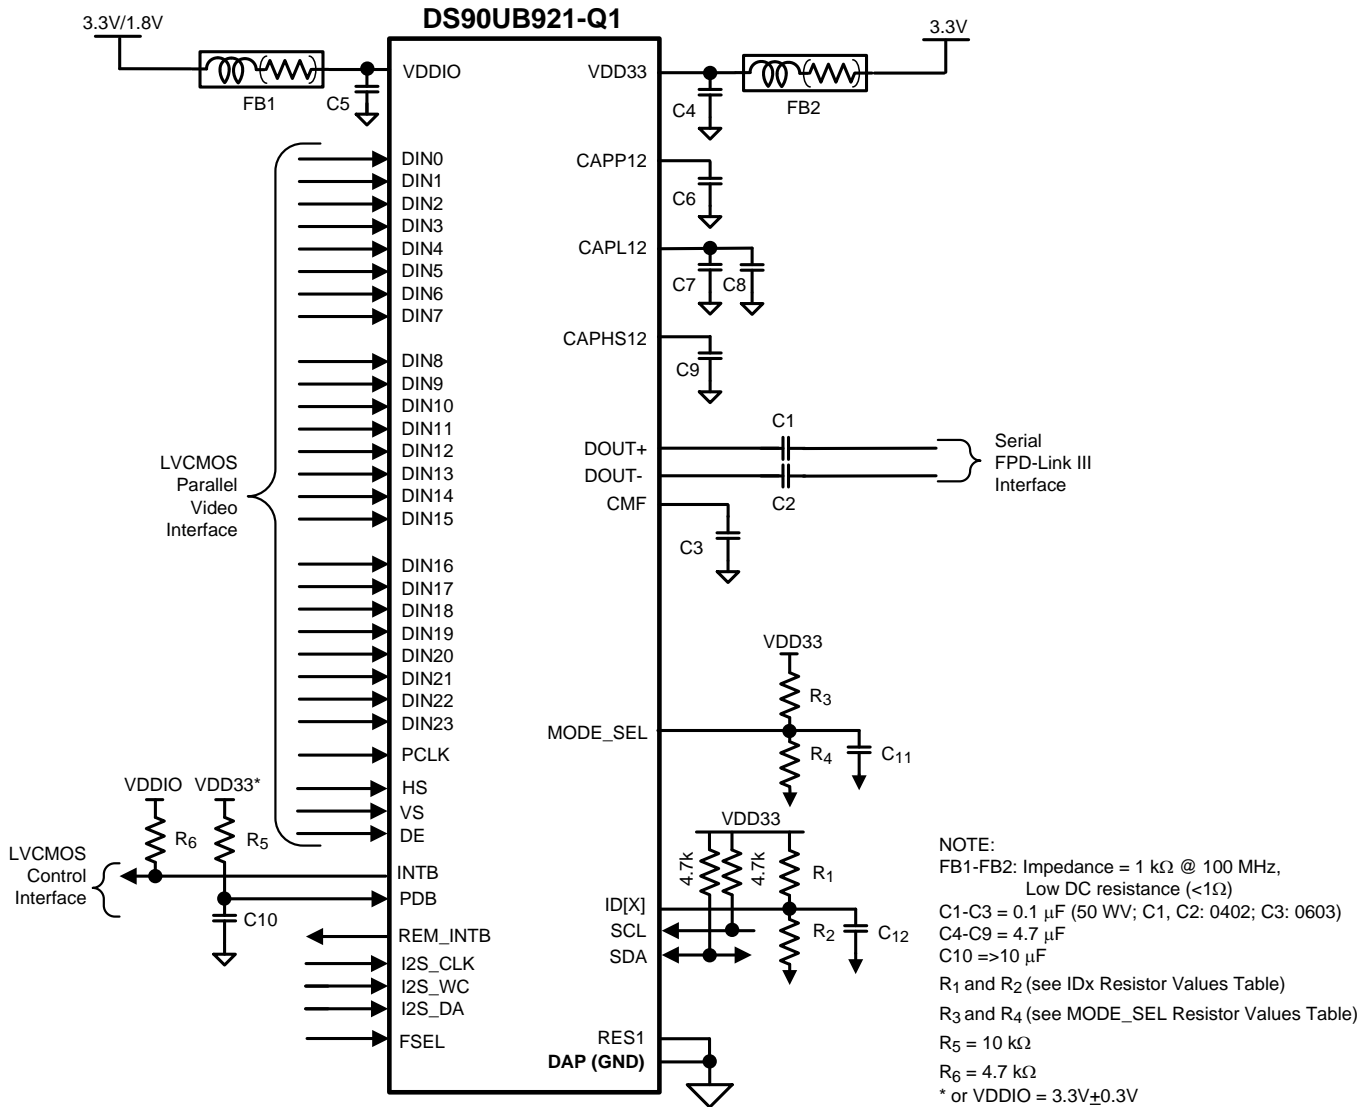

图 26. Typical STP Connection Diagram
图 26 shows a typical application of the DS90UB921-Q1 serializer for an 96 MHz 24-bit Color Display Application. The CML outputs must have an external 0.1 μF AC coupling capacitor on the high speed serial lines for STP applications and 0.33 μF / 0.15 μF AC coupling capacitors for coax applications. The same AC coupling capacitor values should be used on the paired deserializer board. The serializer has an internal termination. Bypass capacitors are placed near the power supply pins. At a minimum, six (6) 4.7 μF capacitors and two (2) additional 1 μF capacitors should be used for local device bypassing. Ferrite beads are placed on the two (2) VDDs (VDD33 and VDDIO) for effective noise suppression. The interface to the graphics source is with 3.3V LVCMOS levels, thus the VDDIO pin is connected to the 3.3 V rail.